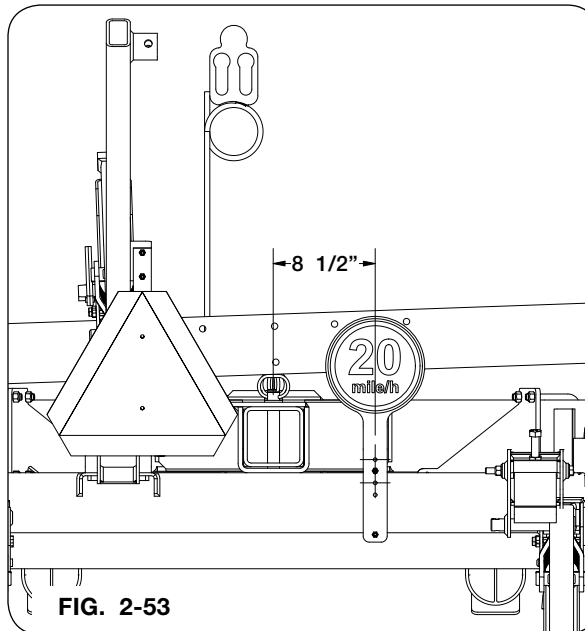

FIG. 2-53
- Attach plate with SIS decal (79340B) to the rear of the main frame and 8 1/2" to the right of center using a 1/4"-20UNC u-bolt (9503592) and two 1/4"-20UNC locknuts (9936). (FIG. 2-53)